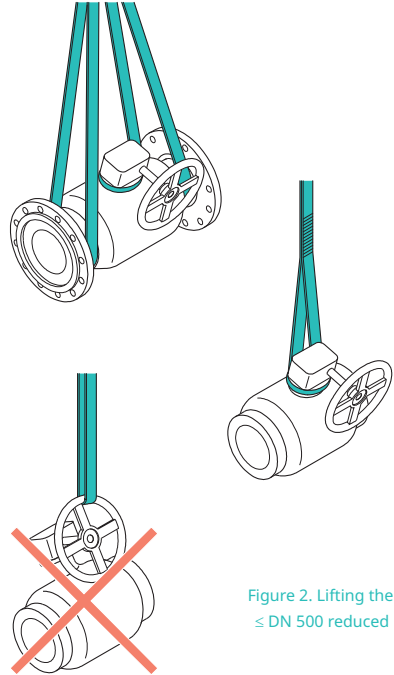

Figure 2. Lifting the valve ≤ DN 500 reduced bore
Use lifting ropes when lifting the large size valves. It is forbidden to lift the valve by its actuator or stem (see Figure 2).
- Use one of the allowed lifting methods shown in Figure 2.